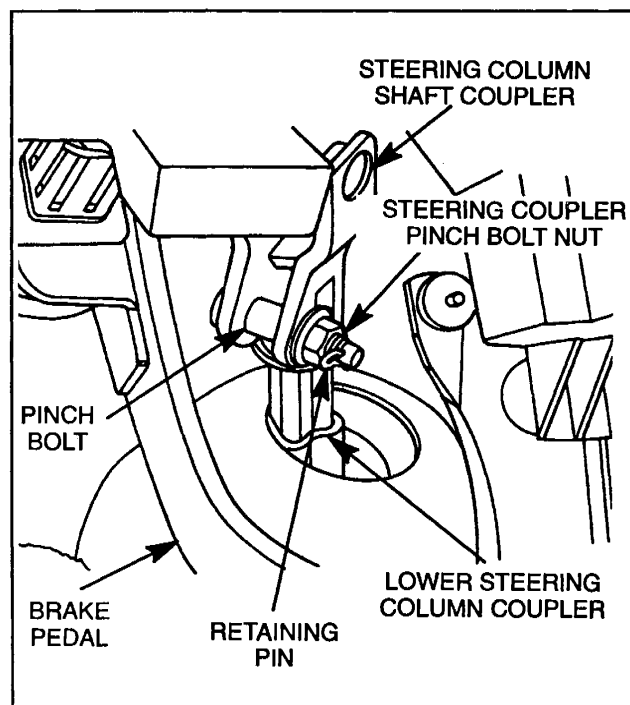

Fig. 3 Upper to Lower Steering Column Coupler
- Remove the retaining pin in the upper to lower steering column pinch bolt (Fig. 3)
- Loosen the upper to lower steering column coupler pinch bolt (Fig. 3) from the steering coupler. The pinch bolt nut is caged to the coupler and is not removable. Then separate the upper steering coupler from the lower steering coupler shaft.
- Before re-attaching the coupler, ensure the front wheels of the vehicle are positioned straight-ahead. Align and assemble the upper steering column coupler to the lower steering column coupler pinch bolt. Torque the pinch bolt to 28 N·m (250 in. lbs.). **Be sure to install upper to lower steering coupler pinch bolt retaining pin (Fig. 3).**